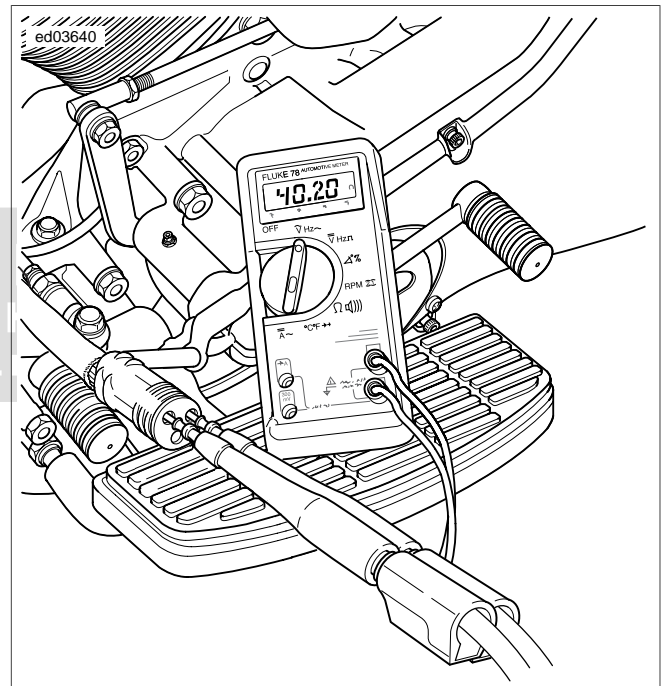

Figure 3-19. Check Stator AC Voltage Output (Typical)
1. See Figure 3-19. Using HARNESS CONNECTOR TEST KIT (Part No. HD-41404), test AC output.